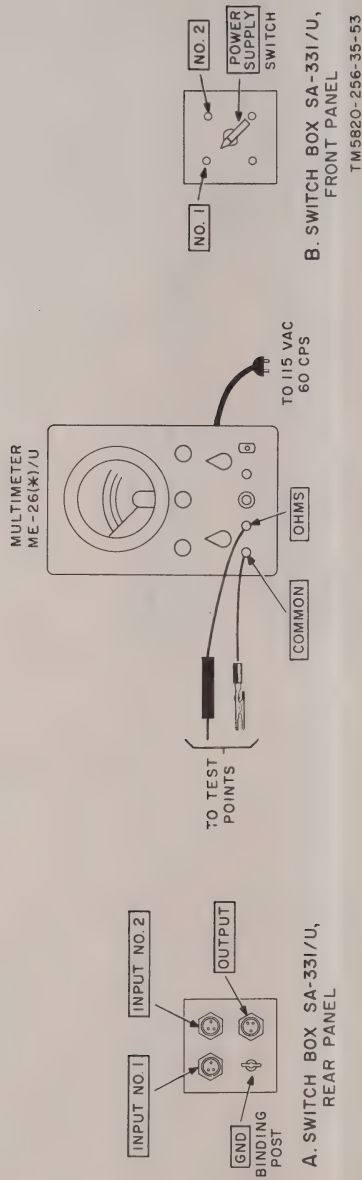

Figure 4-10. Switch Box SA-331/U, test setup.
b. *Test Connections and Conditions.* No power or cables are connected to equipment under test. Refer to figure 4-10 for test points.